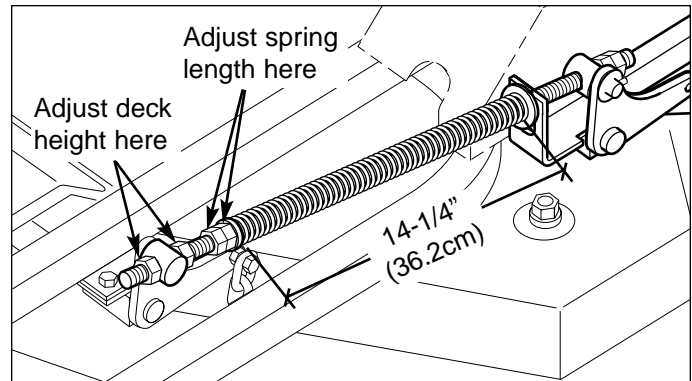

Figure 30. Mower Deck Adjustment
3. Adjust the 5/8" hex nuts on either side of the front spring rod pivot (see Figure 30) until the rear lower edge of the mower deck directly behind the chain is 3-5/8" (9,2cm) from the floor.
5. With the deck height adjustments complete and cutting height still set at 4", adjust the deck lift spring to a compressed length of 14-1/4" (36,2cm). Be sure to measure the spring only. Adjust the length of the deck lift spring by tightening or loosening the (2) 5/8" hex nuts that are closest to the spacer at the front end of the spring (see Figure 30). After adjustment is made, tighten these two nuts together. Perform this step to both springs.